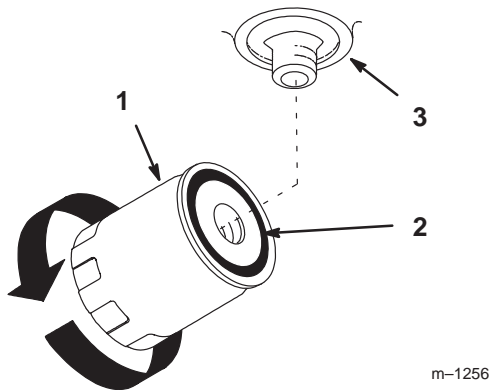

Figure 41
- Apply a thin coat hydro fluid to the rubber gasket on the replacement filter (Fig. 41).
8. When fluid overflows filter turn the oil filter clockwise until the rubber gasket contacts the filter adapter, then tighten the filter an additional 1/2 turn (Fig. 41).